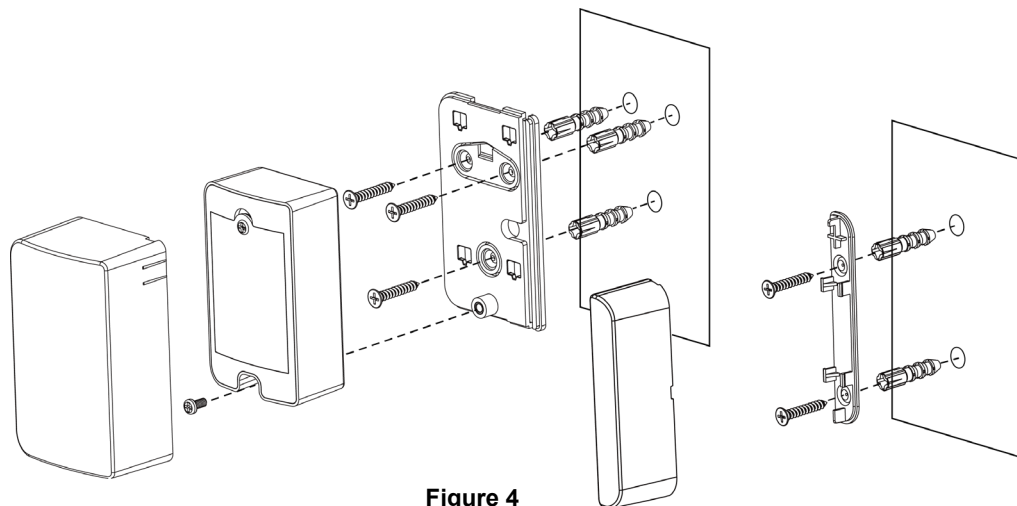

Figure 4
- 2) Use the mounting bracket as a template to drill holes on the wall for plugs. (Figure 4)